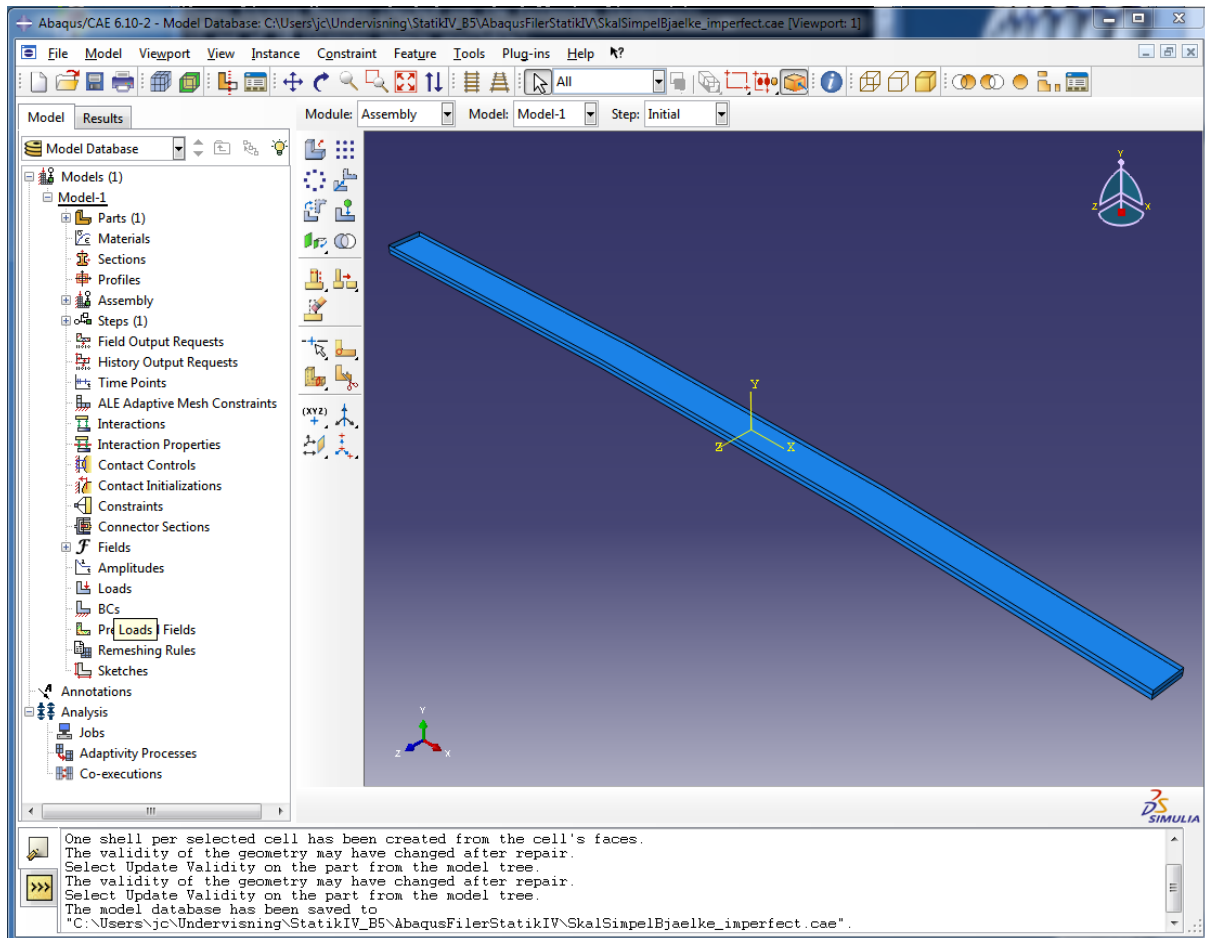

Figure 7 Sketch of the I-beam
- b. Now hold down Ctrl+Alt and use Mouse Key 1 to rotate the model so that the opposite side surface becomes visible. Repeat item 5.a. for this surface.
- d. The geometry has now been defined – except the shell thickness. The model should appear as shown in Figure 7. Note that the beam axis is parallel to the x-axis. Note